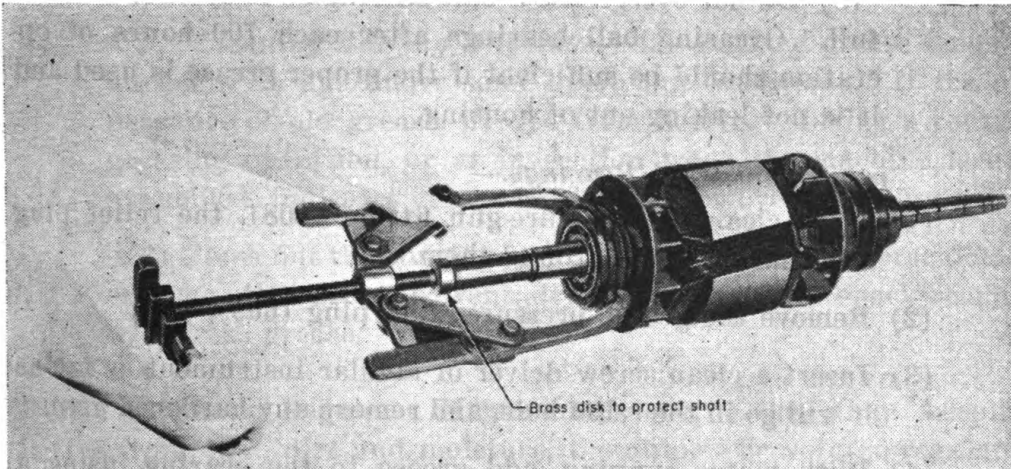

Figure 31.—Removing Ball Bearing with Typical Bearing Puller
- (1) To remove engine-end ball bearings (612).
- (b) Remove the generator end - shield holding bolts and washers (616-617), the bearing-housing cap screws and washers (614-615), and end shield (607).
- (c) Remove ball bearing (612) and inside portion of housing (613) with a bearing puller attached to the bearing housing as shown in Fig. 31. **IF A PULLER IS USED DIRECTLY ON THE BEARING AFTER REMOVING IT ENOUGH TO CLEAR THE HOUSING, IT SHOULD BE ATTACHED TO THE INNER RACE ONLY.**
- (2) To Remove Exciter End Ball Bearing (624):
- (b) Remove the complete exciter, the generator end- shield holding bolts and washers (628-629) the bearing-housing cap screws and washers (626-627) and the generator end shield (619).
- (c) Use a bearing puller attached to bearing housing cover plate (625) in the same manner as used on the engine end. **WHEN THE PULLER IS USED DIRECTLY ON THE BEARING, ATTACH IT TO THE INNER RACE ONLY.**